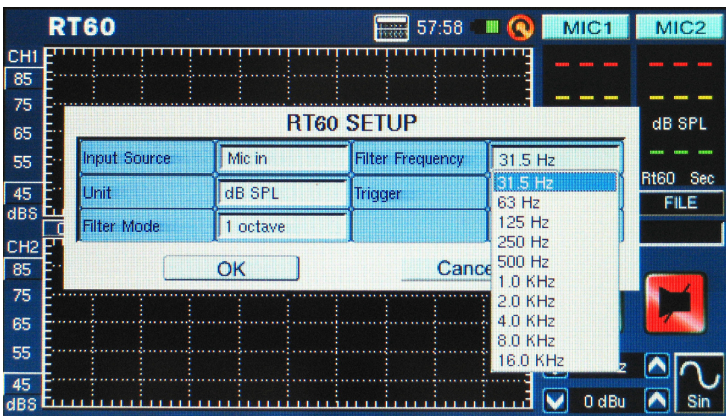

figure 65
11. Filter Mode/Frequency (figure 65)– On the RT60 function, this setting allows users to select one of the preset frequencies to calculate their RT60 measurements. Even after performing an RT60 calculation under the 'flat' frequency filter mode, users can enter the settings menu to add a 1 octave filter at 31.5 Hz, 63 Hz, 125 Hz, 250 Hz, 500 Hz, 1.0 kHz, 2.0 kHz, 4.0 kHz, 8.0 kHz or 16.0 kHz to view the reverb time results under these frequencies.